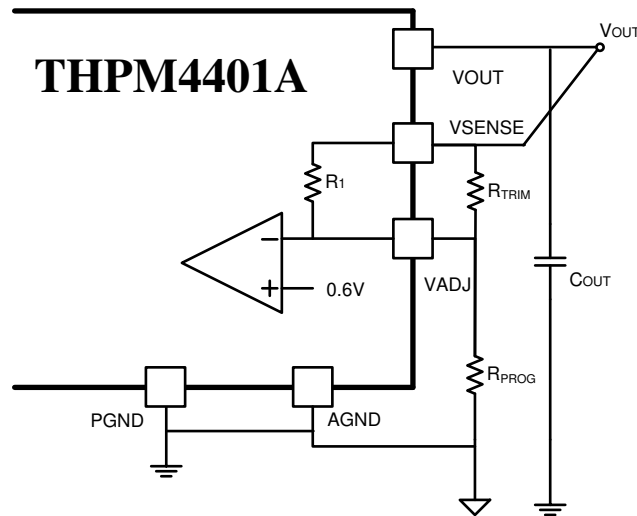

Fig. 14 Output Voltage Trim Circuit
To further adjust the output voltage, another resistor  $R_{TRIM}$  may be connected between VSENSE and VADJ, as shown Fig. 14. The resulting output voltage is a function of equation (2).